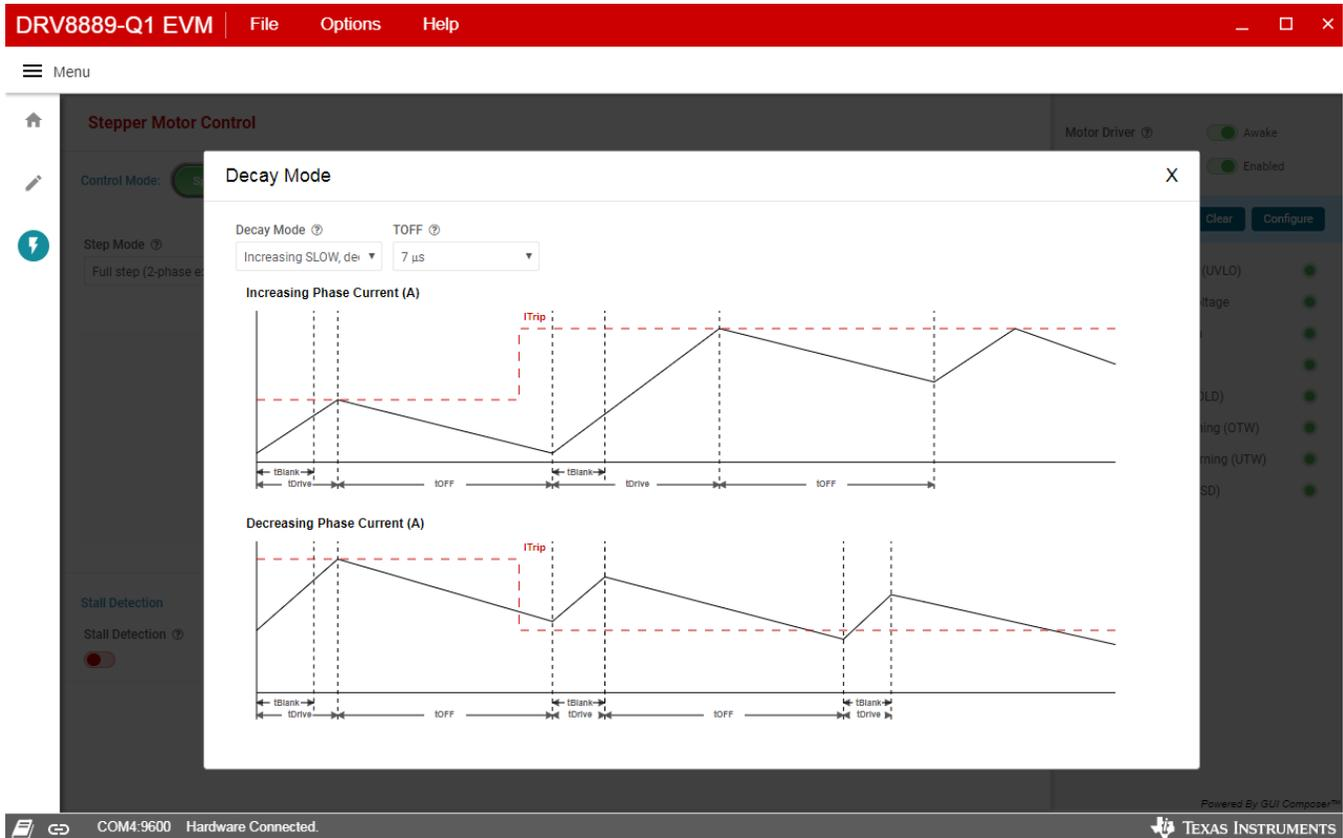

Figure 8. DRV8889-Q1 EVM GUI (Decay mode)
- Click the Decay Mode button at the top center-right of the screen. A popup appears as shown below in Figure 8.